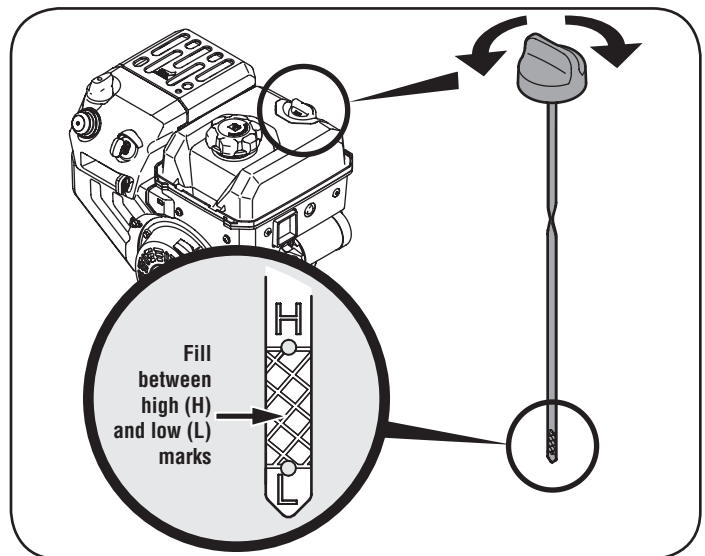

Figure 11
- Remove the oil filler cap/dipstick. If level is low, slowly add oil until oil level registers between high (H) and low (L). See Figure 11.